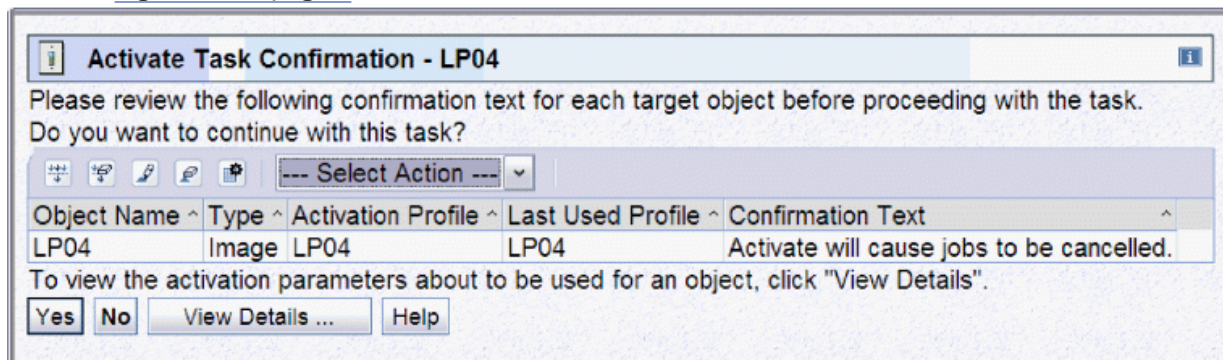

Figure 12. Activate Task Confirmation window
2. Expand **Daily**, and click the **Activate** task under it. This action displays the Activate Task Confirmation window. Figure 12 on page 8 shows this window.